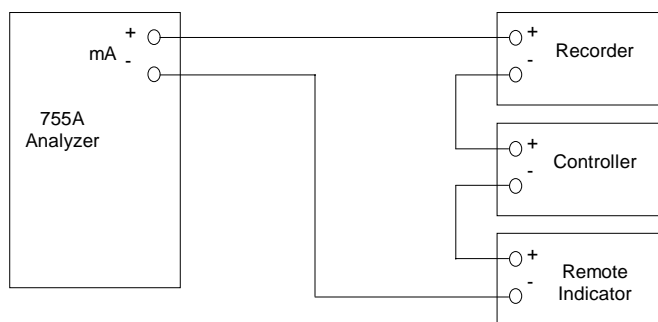

FIGURE 2-4. MODEL 755A CONNECTED TO DRIVE SEVERAL CURRENT-ACTIVATED OUTPUT DEVICES
3. Connect free end of output cable to input terminals of recorder or other current actuated device, making sure that polarity is correct. If two or more current-actuated devices are to be used, they must be connected in series as shown in Figure 2-4.